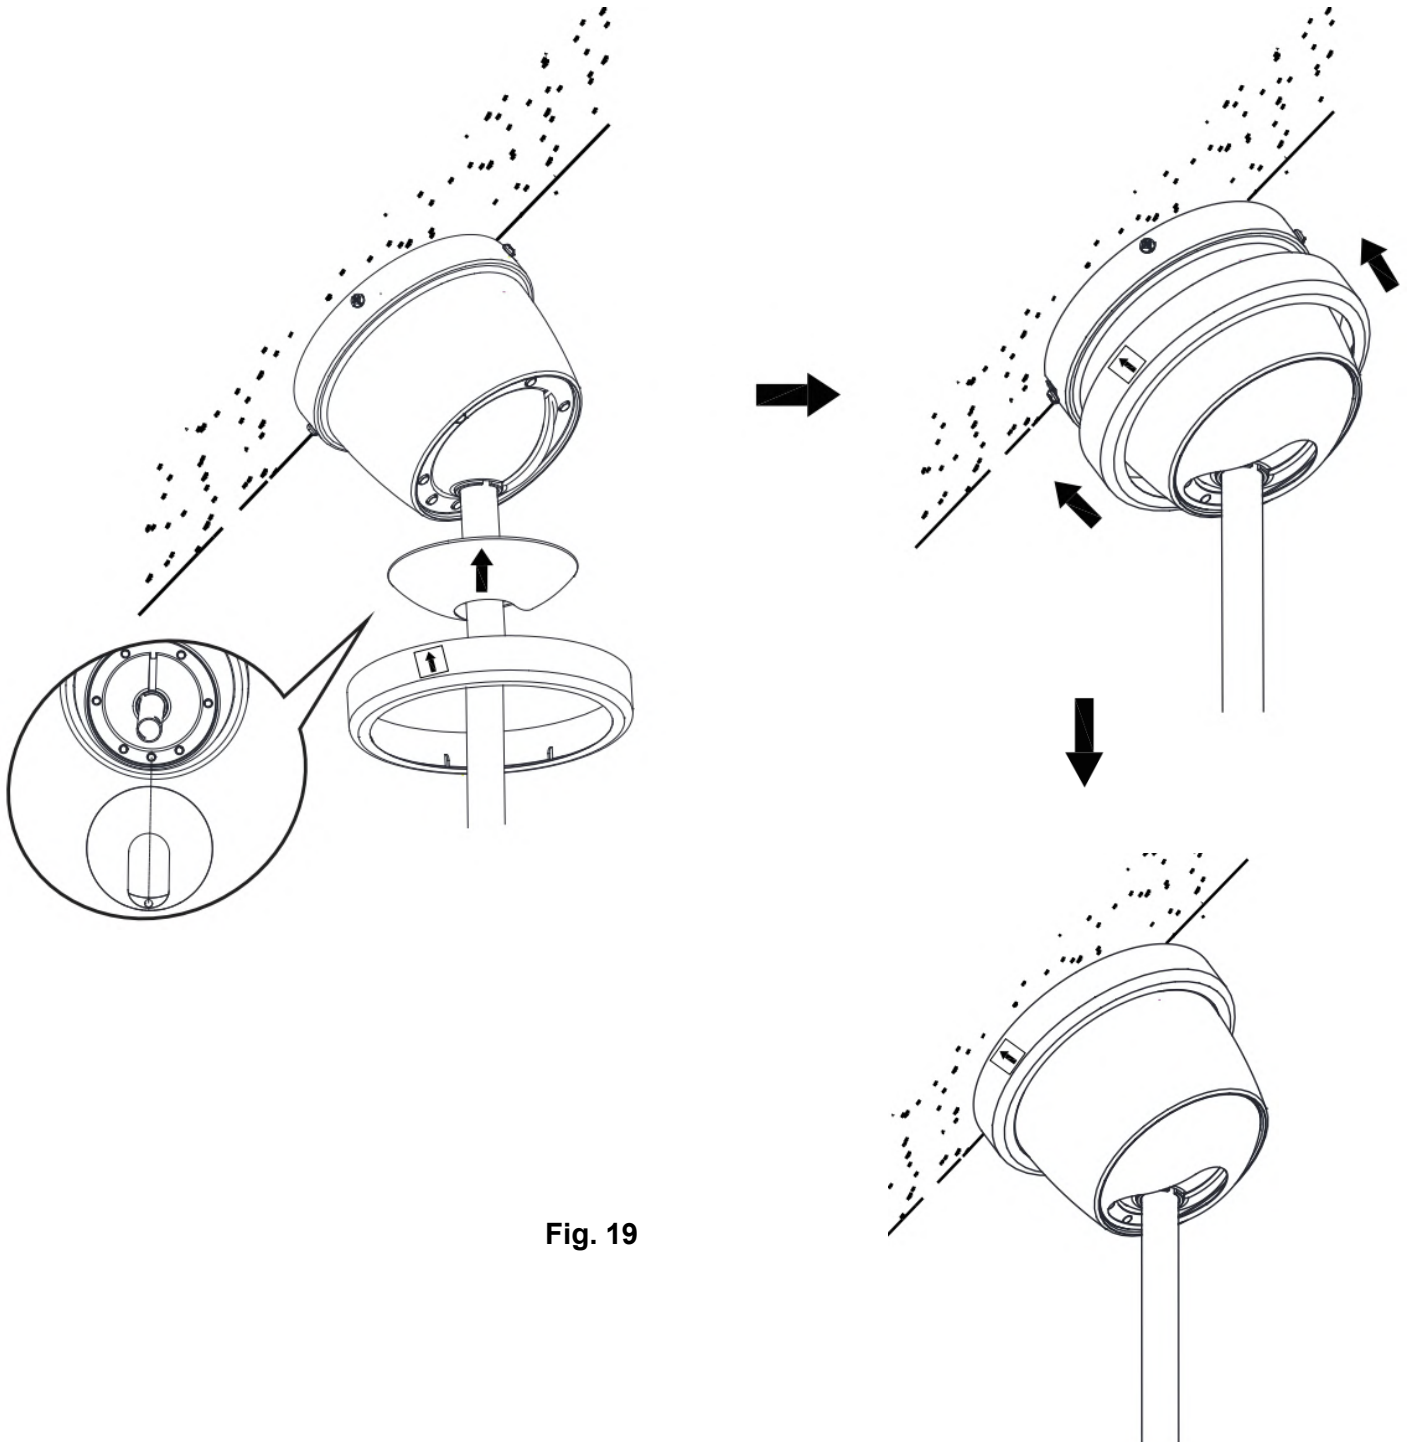

Fig. 19
- Slide the angle canopy cover to the angle canopy and attach it to the angle canopy. (Fig.19)
- Slide the decorative ring up to the angle canopy and attach it to the angle canopy. (Fig.19)